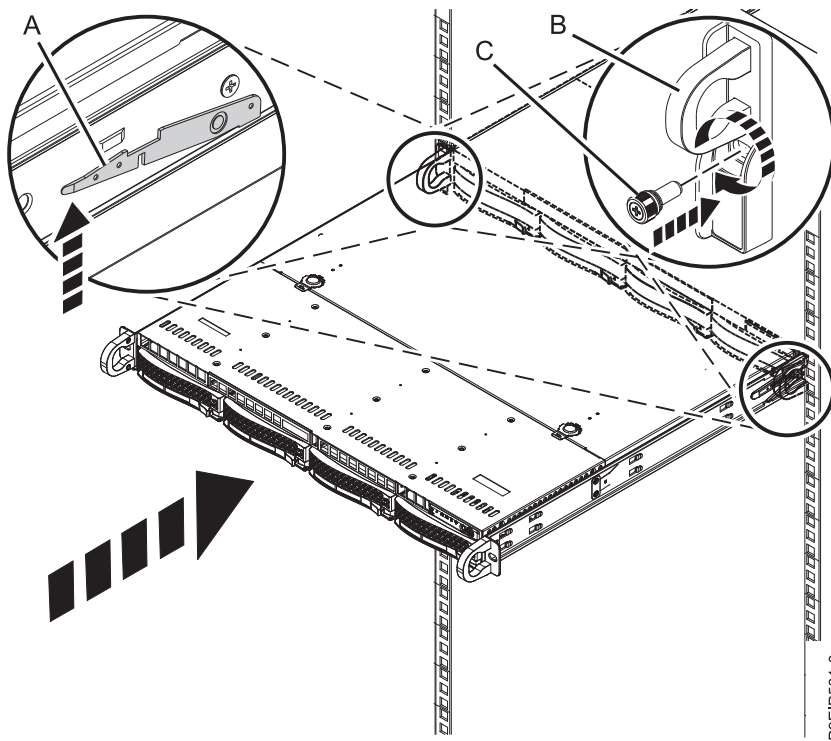

Figure 92. Placing the system into the operating position
5. Release the rail safety latches (A) by lifting them upward, as shown in Figure 92, then push the system fully into the rack. The safety latches work in opposite directions; the latch on one side moves up while the latch on the other side moves down.